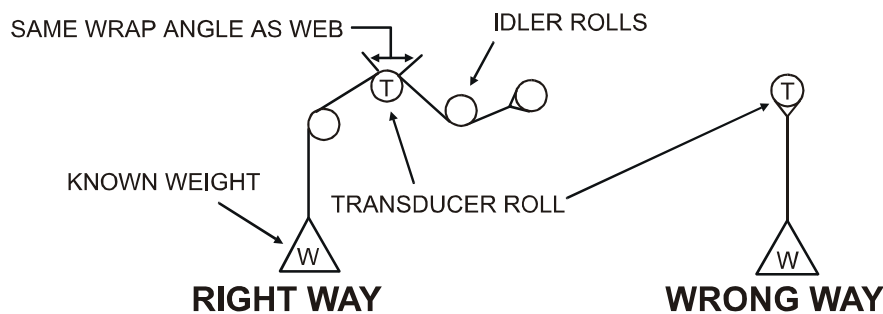

Figure 8 - WEB PATH FOR METER CALIBRATION
- Fasten one end of the rope in the machine and thread the other end around the transducer roll in exactly the same path as the web will take. Be sure it does not pass around any driven rolls, drag bars, or anything else that can affect tension. Refer to Figure 8 below.
This may happen if the setting for the calibration point is not logical (below the zero point). Attach the weight as shown in Fig. 8 on page 8 in the calibration section.